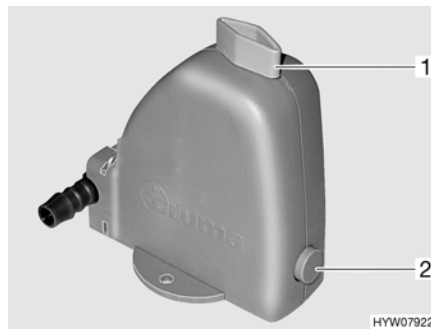

Fig. 177 Safety/drainage valve
The heater is equipped with a safety/drainage valve (Fig. 177). The safety/drainage valve prevents water for the production of hot water from freezing, when there is frost and the heater is not switched on.
- Close the safety/drainage valve. Turn the knob (Fig. 177, 1) perpendicular to the safety/drainage valve and push the push button (Fig. 177, 2) in.
- Open the safety/drainage valve. To do this turn the knob (Fig. 177,1) parallel to the safety/drainage valve. The push button (Fig. 177,2) jumps out. The domestic water container is emptied to the outside through the safety/drainage valve.